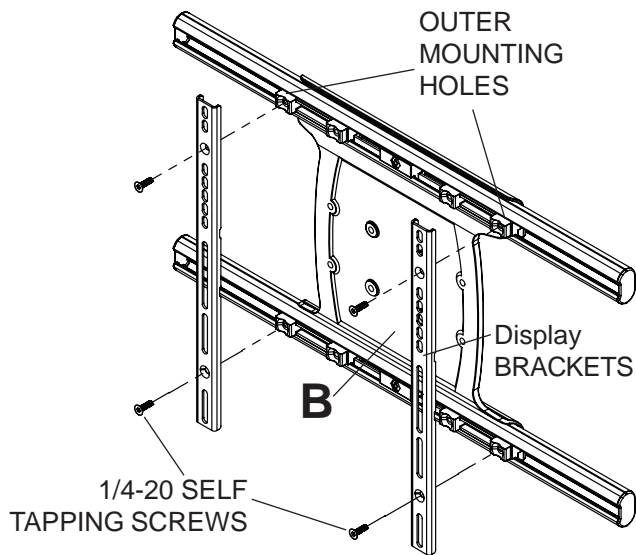

fig. 4.1
Remove four 1/4-20 self tapping screws to detach display brackets from outer mount holes of universal adapter bracket (B) using 5 mm allen wrench (I) as shown in figure 4.1. Reinstall four 1/4-20 self tapping screws to secure display brackets to inner set of mounting holes on universal adapter bracket (B) as shown in figure 4.2.